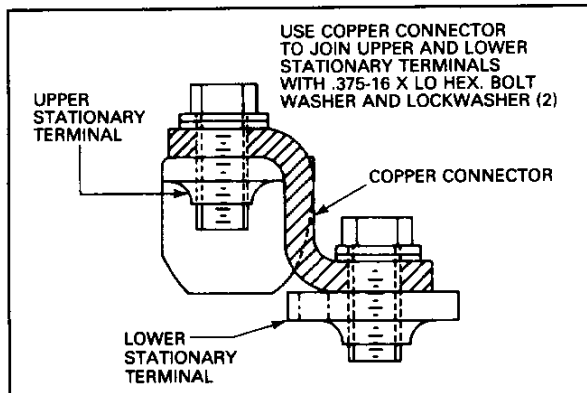

Fig. 4 Connecting Upper and Lower Stationary Terminals
1. Remove the three (3) electro-mechanical trip units.
2. Place the 2.0" x 2.38" x .25" "Z" copper connector over top of the upper stationary and lower stationary terminals, lining up the holes. Secure connector using .375-16 x 1.0 hex bolt, washer and lockwasher. See Fig. 4.